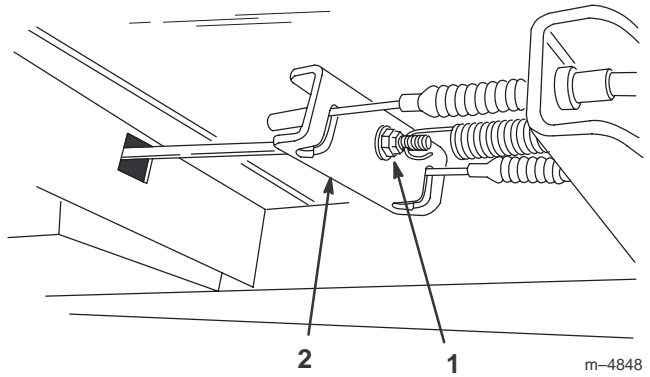

Figure 32
3. Tighten the cable adjusting screw, located beneath the floor panel, until the cables are snug in the brake equalizer (Fig. 32). Do not overtighten. There should be some free play in the brake pedal before the brake engages.